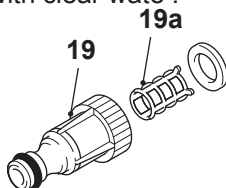

Fig. 19
- > Unscrew and remove the water inlet hose adaptor (19) from the water inlet (14).
- > Disassemble the water inlet hose adaptor (19) (Fig. 19).